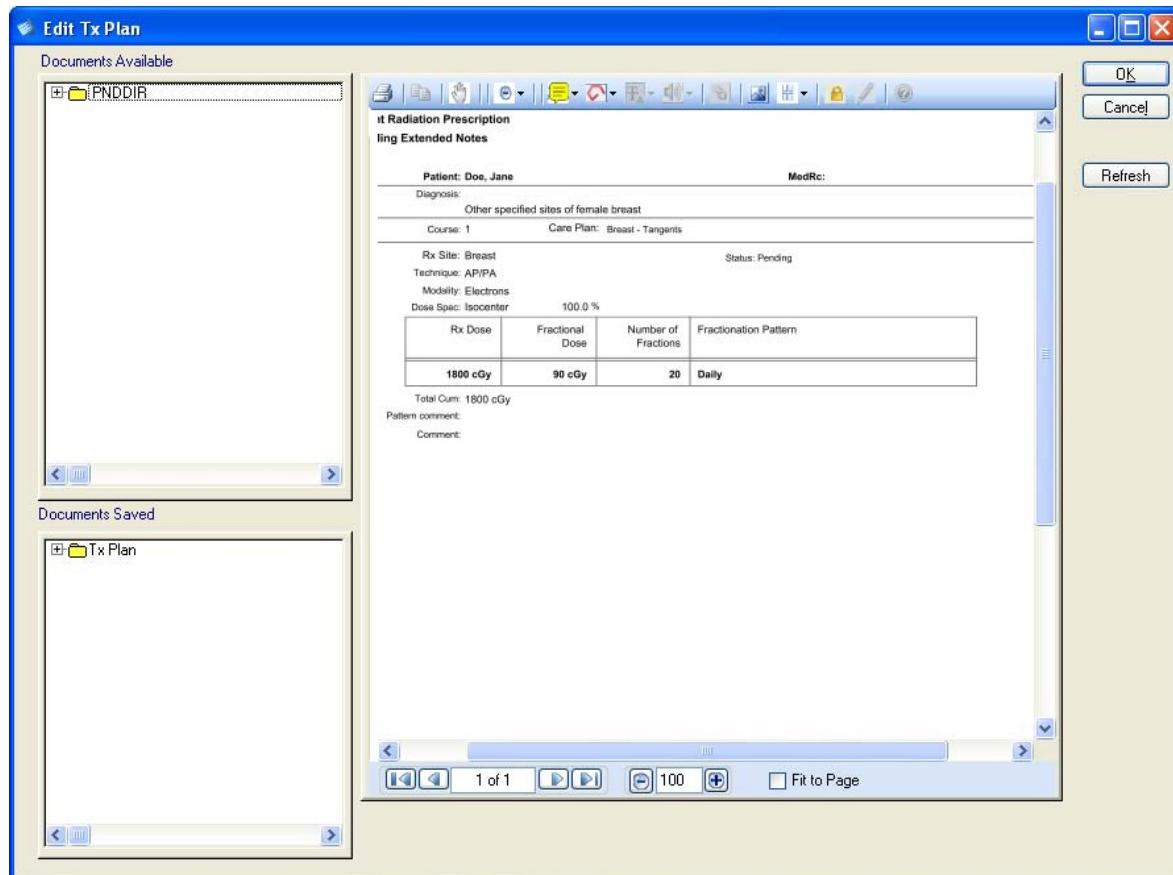

Figure 15: Edit Tx Plan Window
- Click **Edit** to open the Edit Tx Plan window, shown in Figure 15.